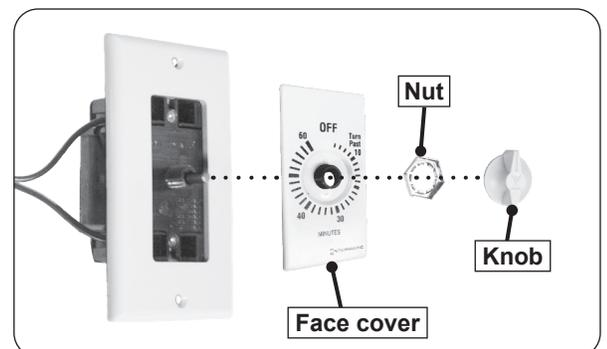

Fig. 1-2 Attach face cover and knob (timer only)
9. **Timer only:** Attach the timer face cover to the wall cover using the face cover nut provided. Align knob and press in place. See Fig. 1-2.